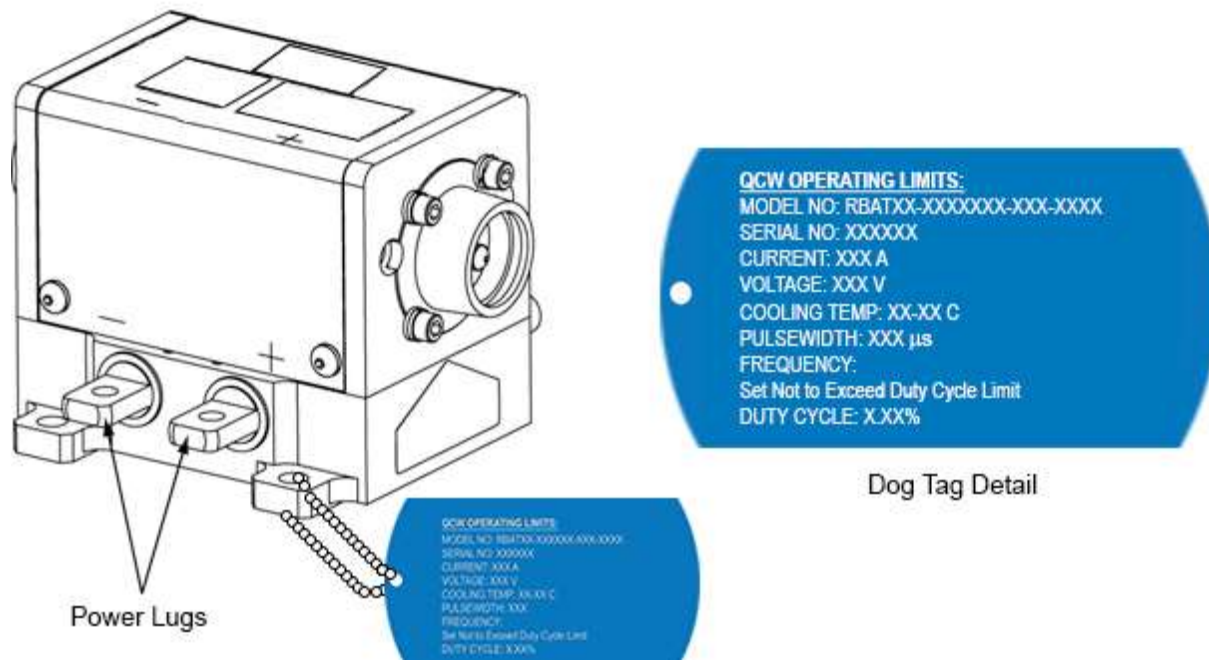

Figure 3-1 RBAT with Power Lugs and Dog Tag
The RBAT module connects to diode drive current via positive and negative power lugs which attach to two ring tongue terminals (thread size 8-32 UNC-2B, see Figure 3-1). The lugs are labeled positive (+) and negative (-). The required voltage bias for the RBAT PowerPULSE diodes are listed in Table 1-3 in *Chapter 1: Introduction*. The RBAT PowerPULSE module was shipped with a final test report that shows the performance of the module at nominal operating conditions. The operating limits are engraved on both the cover and a dog tag attached to the module, as shown in Figure 3-1.
2. Place a shorting connector across the power lugs shown in Figure 3-1.